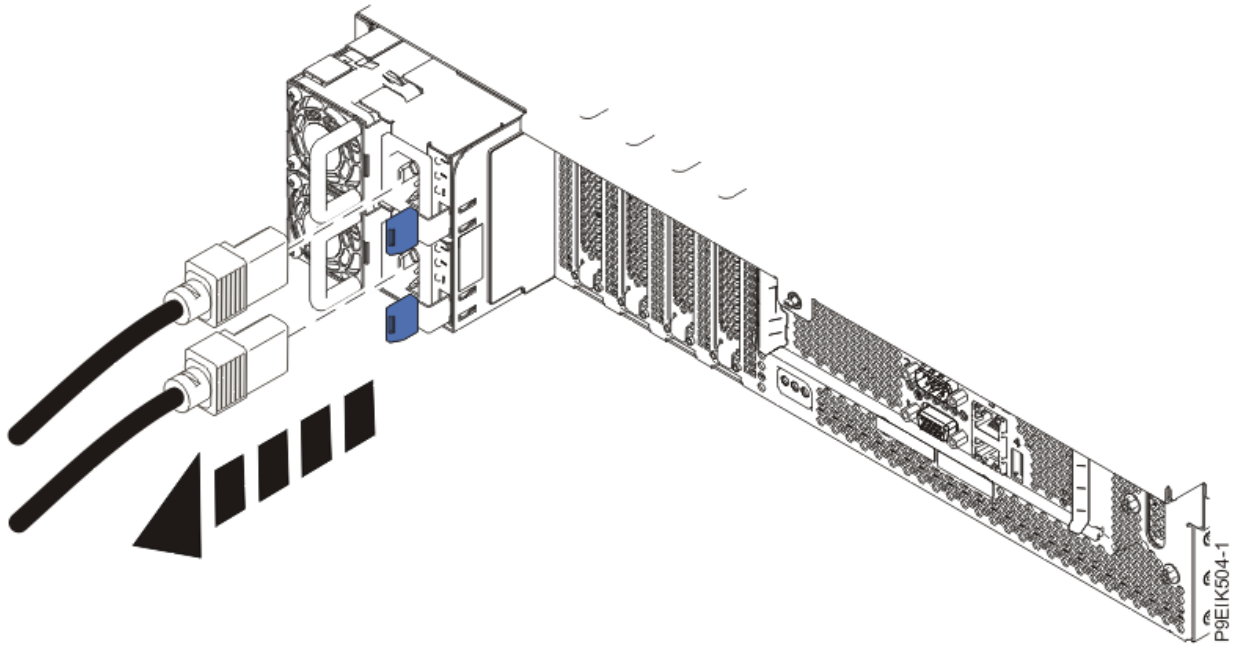

Figure 125. Removing the power cords from the system
4. Disconnect the power cords from the system unit as shown in Figure 125 on page 157.